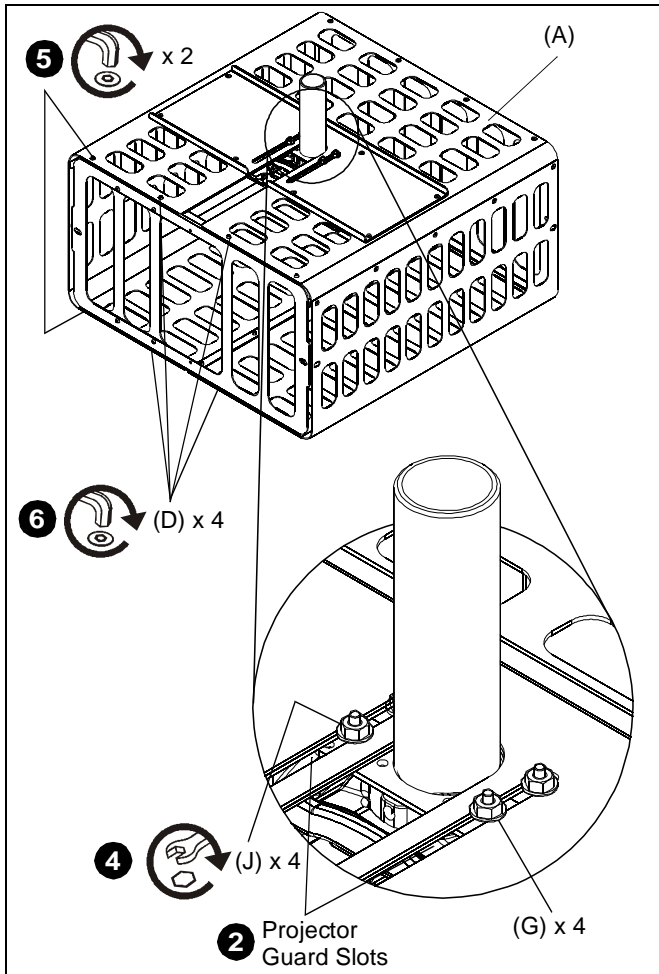

Figure 8
2. Slide the projector guard (A) into position over the projector, while aligning the slots on the projector guard with the screws in the RPA/RPM mount. (See Figure 8)
3. Align the projector to sit evenly in the projector guard (A).
4. Reinstall the 1/4" hex nuts (J) and 1/4" washers (G) onto the screws (E). (See Figure 8)
5. Close the hinged door on the projector guard and reinstall the two security screws which were removed in Step 1 of **Configure Fillers on the Projector Guard**. (See Figure 8)
6. Install four 10-24 x 3/8" security screws (D) in remaining four holes. (See Figure 8)